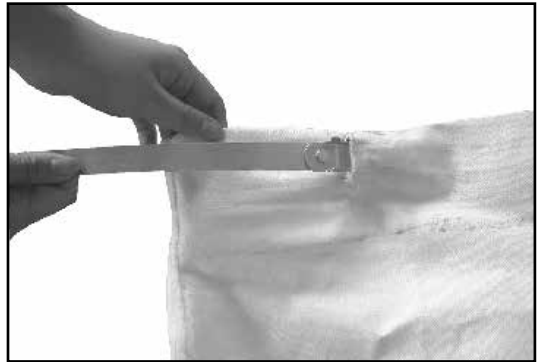

Fig. 08
- 3.) Start the slotted catch end of the band strap through the right slit (Fig. 08).